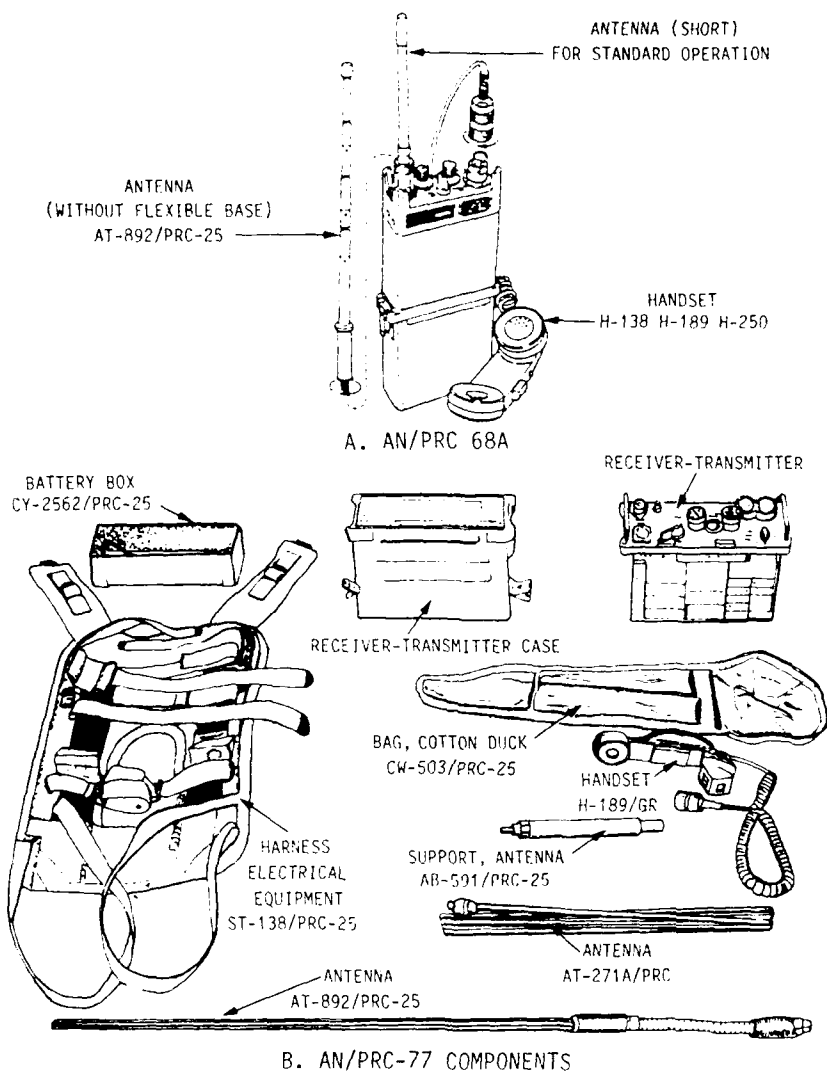

Figure 8-1.—Radio Sets.
The AN/PRC-68A radio set (fig. 8-1, view A) is a short-range, portable, frequency-modulated (FM) receiver-transmitter used to provide two-way voice communication. It can handle ten preset channels, with up to 2,000 channels available. It weighs (including battery and antenna) 3.125 pounds and measures only 9.35 inches by 3.8 inches by 1.52 inches.
The AN/PRC-77 radio set, shown in view B of figure 8-1, is a short-range, man-packed,
3. Attach Handset H-189/GR (fig. 8-1, view B) to either audio connector (AUDIO).
11. Press Handset H-189/GR (fig. 8-1, view B) PUSH-TO-TALK switch (on the right side of the handset) and speak into the handset. Release the PUSH-TO-TALK switch to LISTEN.
12. Adjust the VOLUME control (10) for a desirable sound level.
13. To reduce the rushing noise when no signal is being received, turn switch (10) to SQUELCH.